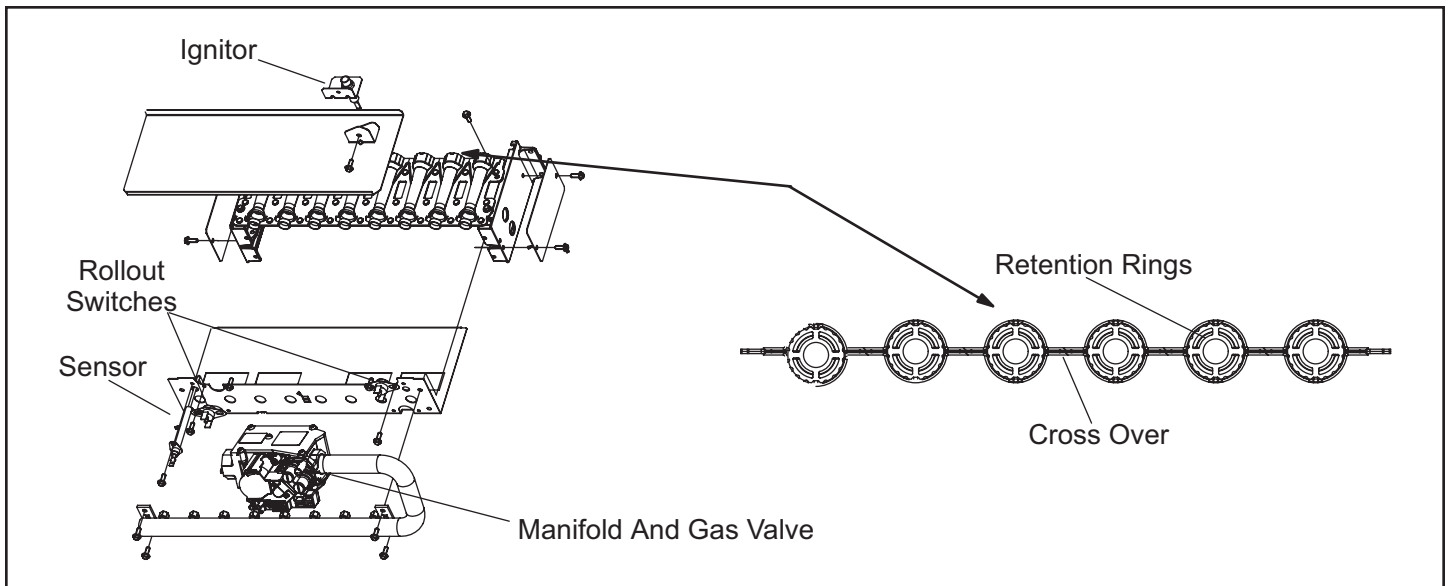

Figure 38. Burner Removal
4. To clean burners, run a vacuum cleaner with a soft brush attachment over the face of burners. Visually inspect inside the burners and crossovers for any blockage caused by foreign matter. Remove any blockage. Figure 38 shows burner detail.